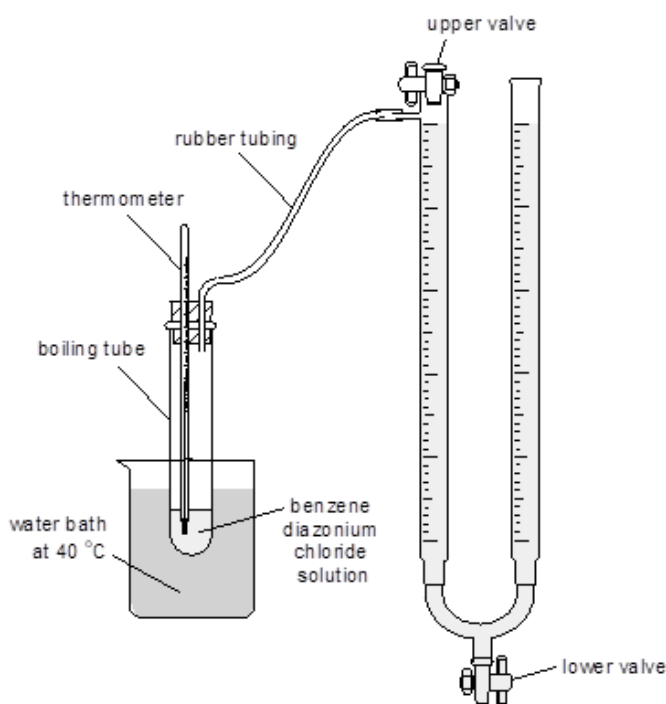

Fig. 4.2
- (iv) Complete the diagram on Fig 4.2 to show the experimental set-up the student could have used to carry out experiment in (b) to measure the volume of nitrogen evolved at 40 °C.